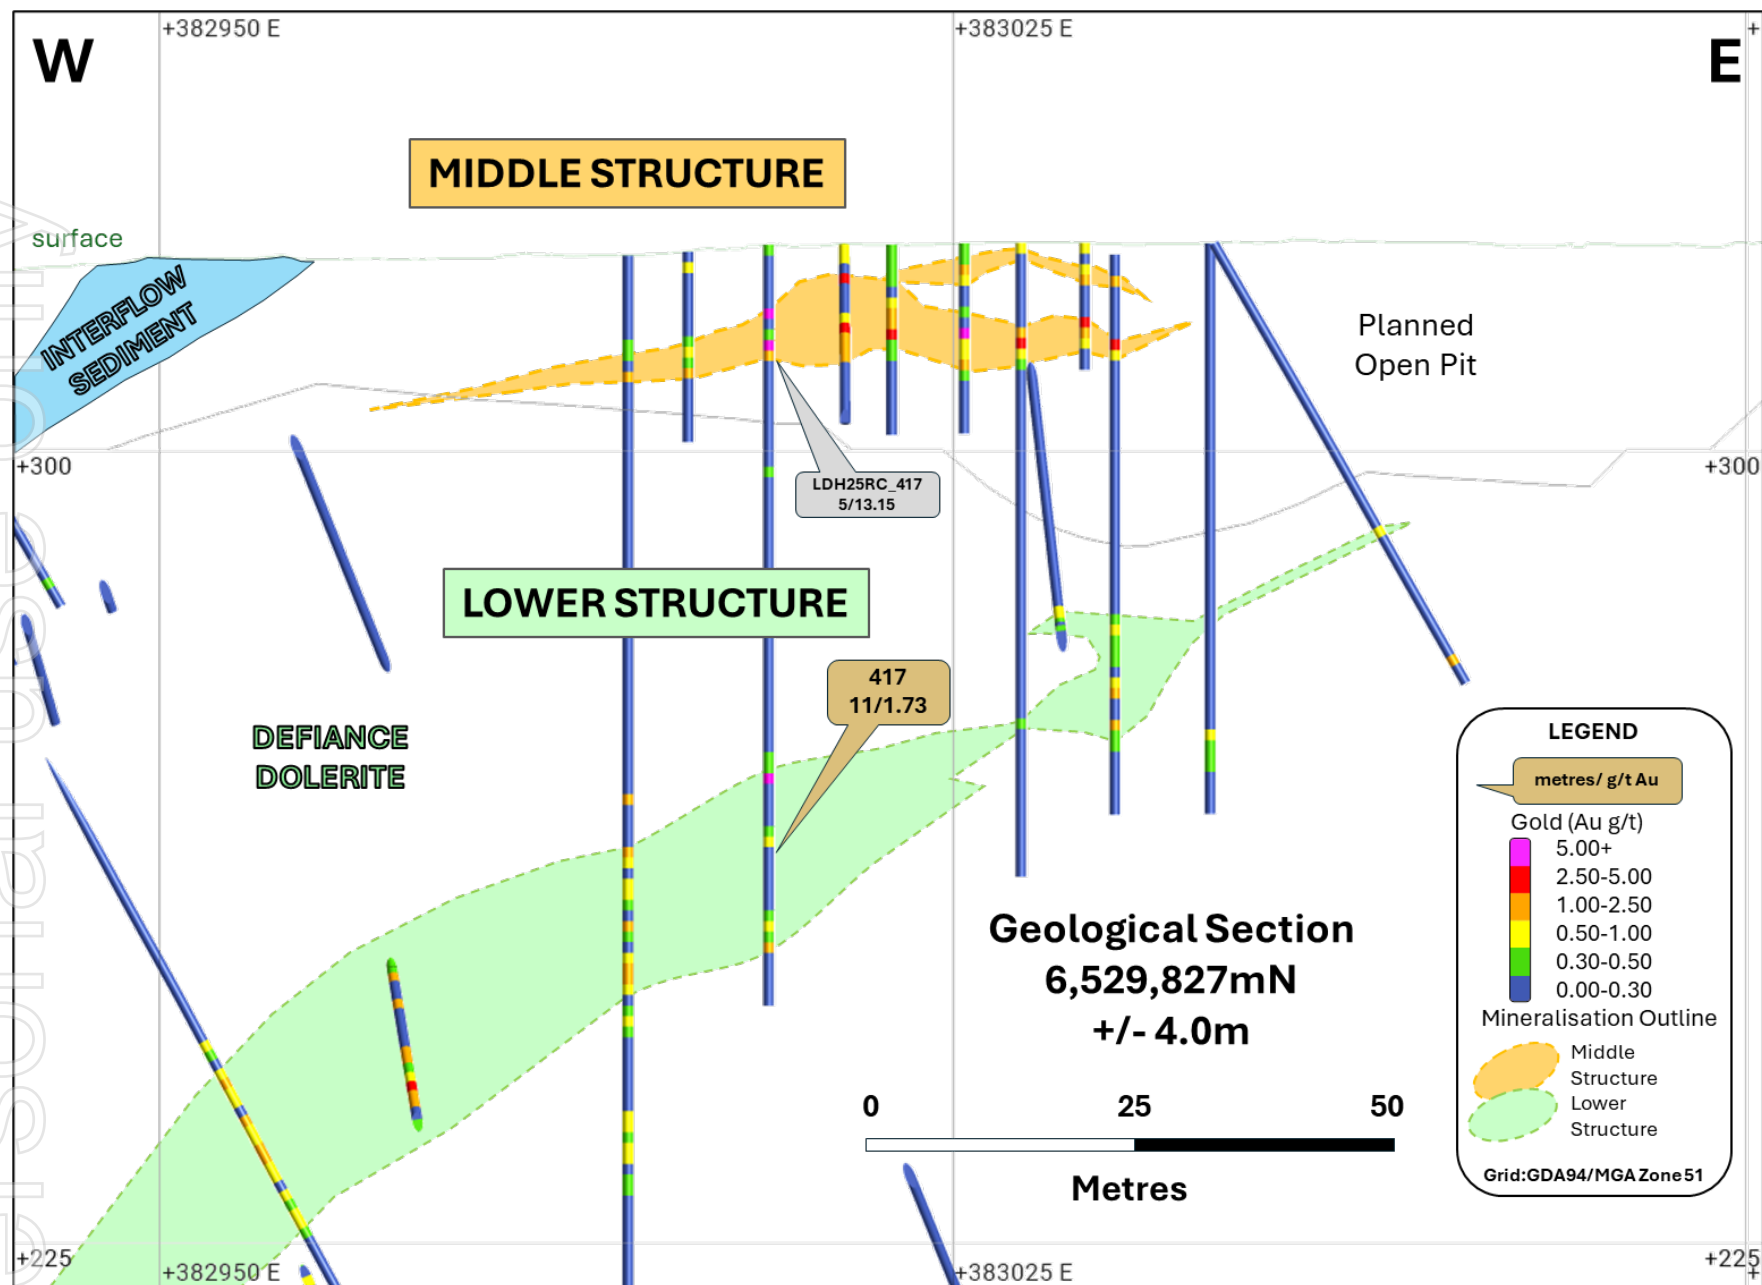

Figure 6: Section 6,529,827mN (looking north +/- 4m) illustrating the results reported today (gold call-outs).
As shown on the cross sections in **Figures 4** and **5** (see pages 5 and 6), the presence of thick gold mineralisation on both structures would significantly reduce the potential strip ratio of any future open pit cut-back to the northwest. The opportunity to expedite regulatory approval for any such cut-back, given it would largely fall within the recently approved and fully permitted development footprint, will also be evaluated. Full results are detailed in Annexure 2, including two additional significant results on the Lower Structure, also indicating gold potential below the current open pit on that structure (**Figures 6** and **7**).
- **Middle Structure – Figure 6:** section 6,529,827mN highlighting one result which represents an extension to an existing and previously reported drill hole through the Middle Structure and into the Lower Structure below the current planned pit.